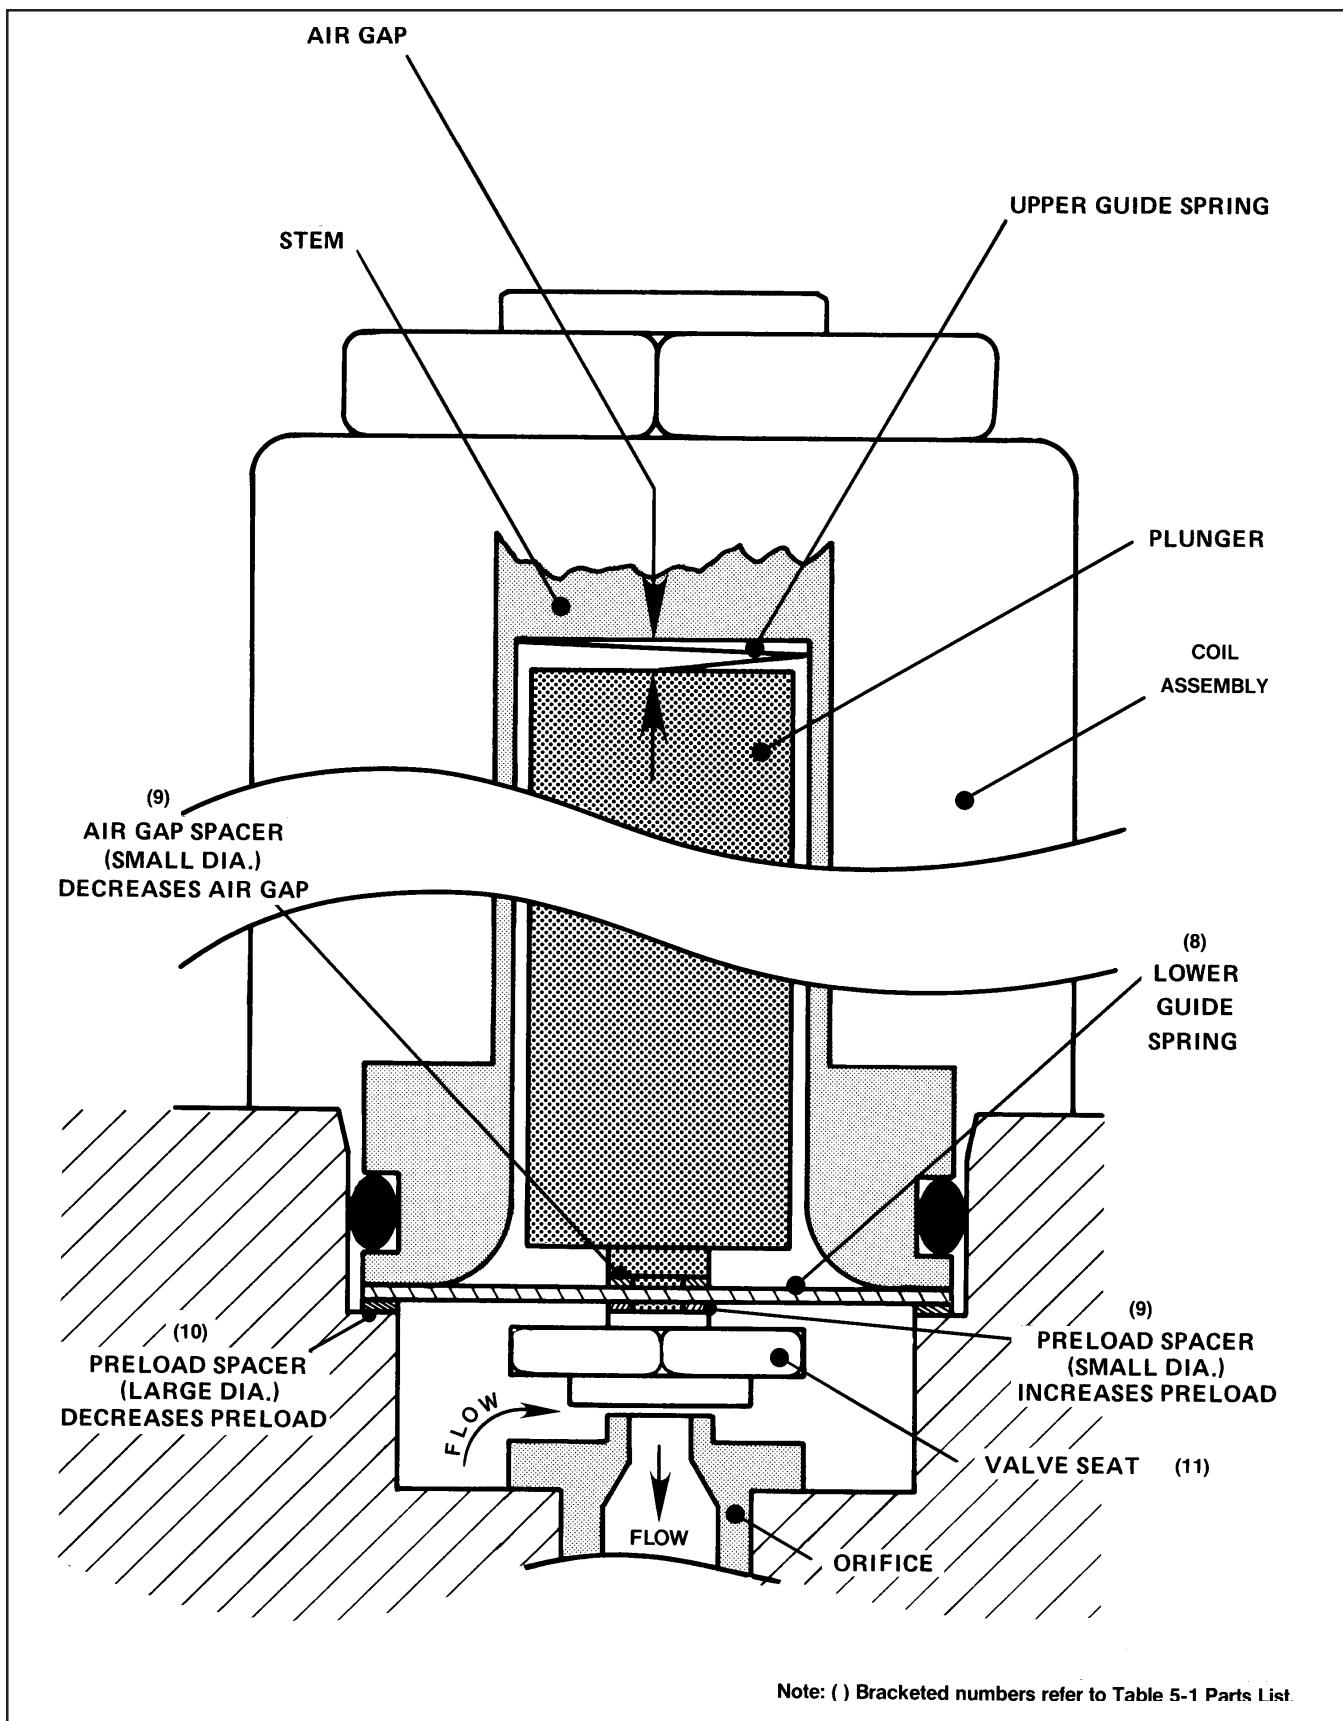

Figure 4-2 Valve Adjusting Spacer Locations
The valve is adjusted in Brooks Mass Flow Controllers by adding spacers (9 and 10) to the control valve assembly to vary the air gap and initial preload. Spacers are used to affect the proper adjustment because they provide a reliable and repeatable means for adjustment. Screw type adjustment mechanisms can change with pressure or vibration and introduce an additional dynamic seal that is a potential leak site and source for contamination. Refer to Figure 4-2 for spacer locations.
- a. Remove the electronics cover (23) from the controller. Insure that the connector from the coil assembly (2) is properly reconnected to the PC Board after the electronics cover is removed.
- d. Decrease the preload of the valve by 0.005 inches by either removing a 0.005-inch small preload spacer or by adding a 0.005-inch large preload spacer. Refer to Figure 4-2.
- j2. If the flow controller output signal is 100% and the valve voltage is greater than 11.5 V, decrease the air gap with a small 0.005 inch air gap spacer. Refer to Figure 4-2. Repeat Steps h and i.